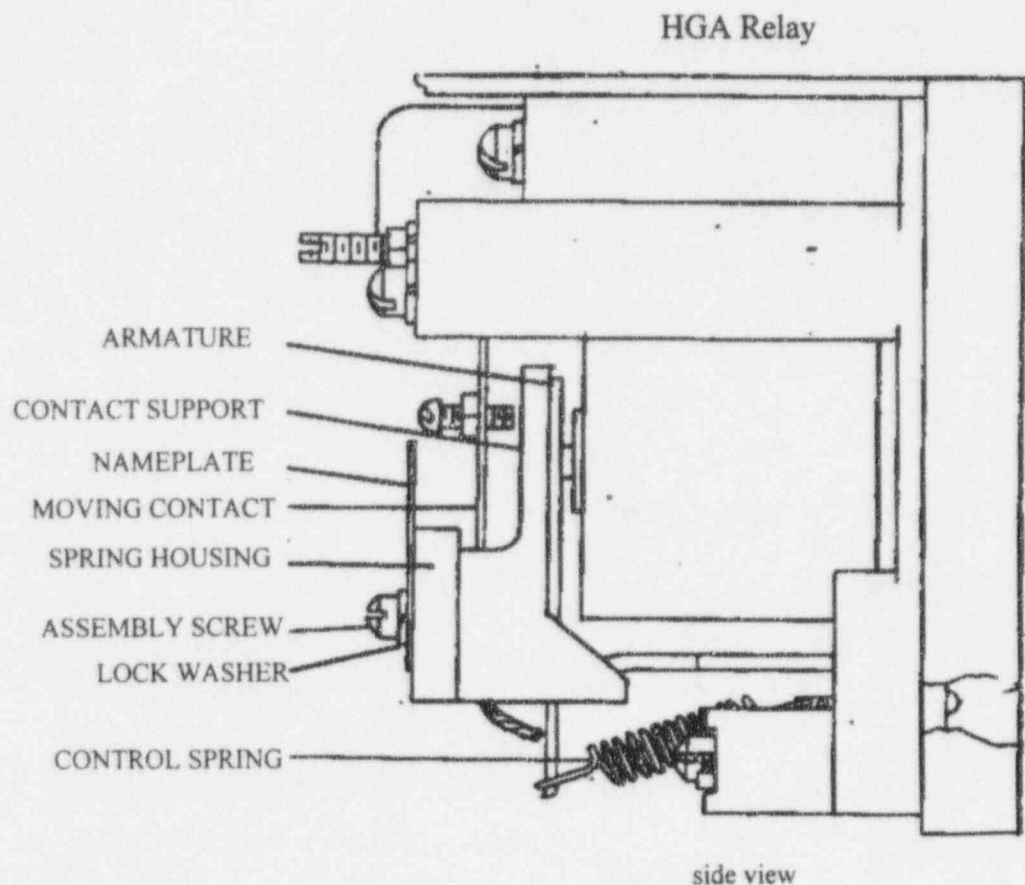

FIGURE 1
2. Close the armature fully by hand, (push armature against the pole, see Fig. 1), and gradually release. For correct operation, the armature should move to the fully open position with no binding and with correct contact action. The normally open contacts should open and the normally closed contacts should close. If binding is detected, we recommend the following:
The contact support should be replaced as follows: (Refer to Fig. 1)